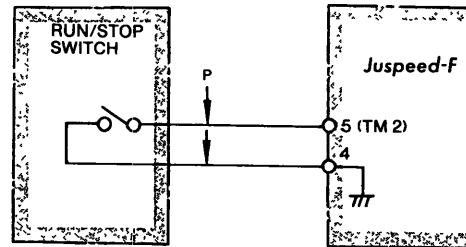

Fig. 4 Connections of RUN/STOP Switch
(1) SIGNAL LEADS
Use the twisted lead for connections to signal terminals ④ to ⑭. The signal line must be separated from main circuit terminals T1 (U) , T2 (V) , T3 (W) , L1 (R) , L2 (S) , and L3 (T) and large current electrical circuit (400V, 200V, 100V relay sequence circuit). See Fig. 4. Lead length should be 66 feet (20 meters) or less.